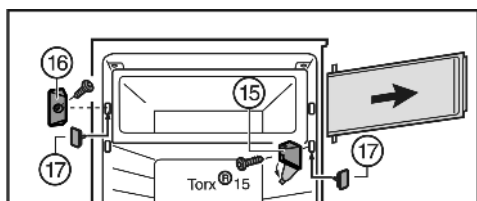

Fig. 7
- Fold away cover of turn hinge Fig. 7 (15).
- Unscrew turn hinge Fig. 7 (15) together with compartment door.
- Unscrew closing element Fig. 7 (16).
- Close the vacated holes with the accompanying stoppers Fig. 7 (17).